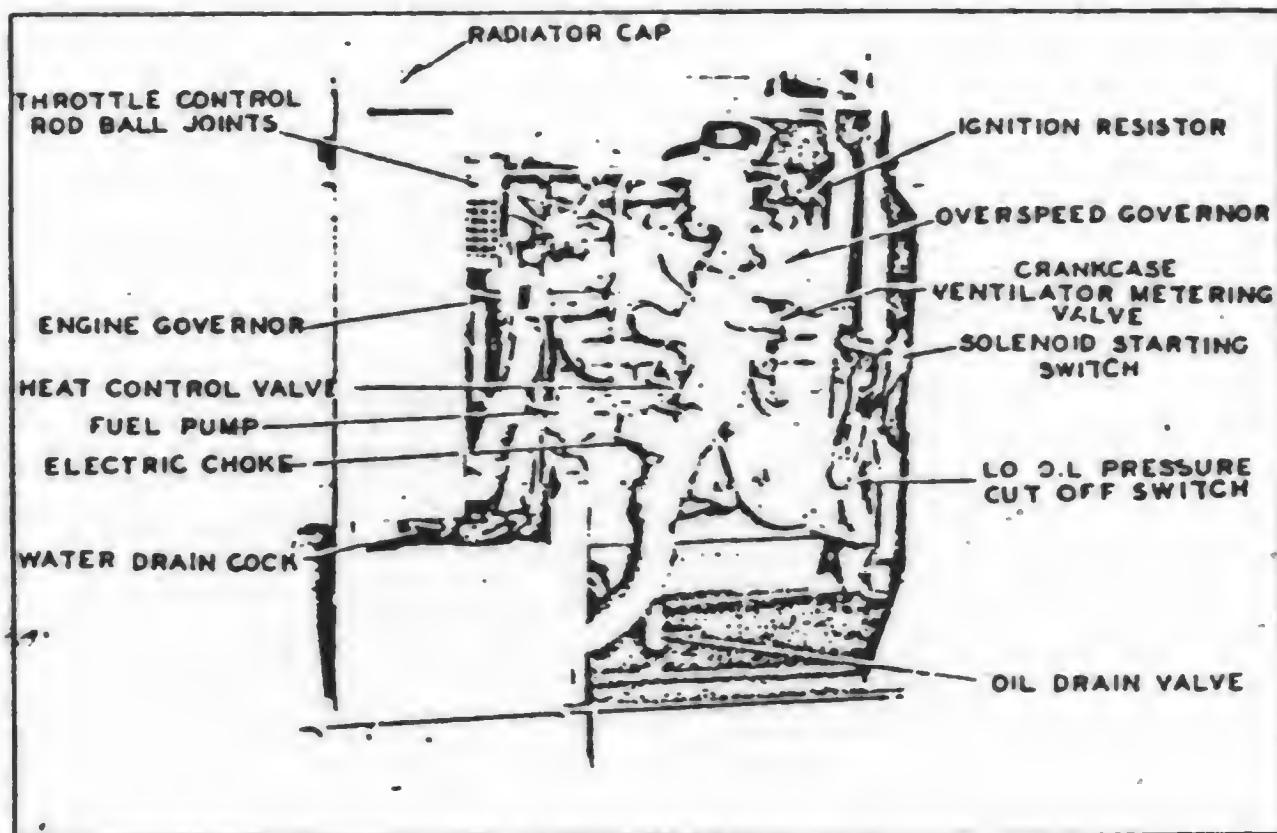

FIG. 5 RIGHT SIDE OF ENGINE
*a. Design.*—The engine (Fig. 5) is of the 4-cylinder, 4-cycle, L-head, water cooled, automotive type. It furnishes the power which drives the main generator to which it is direct-connected. It also drives certain necessary accessory equipment. It is designed to operate on regular gasoline of 70 to 80 octane.
*c. Miscellaneous Control Equipment.*—The following control devices are located at different places on the power unit. (See Figs. 5 and 6).
(19) *Fuel Pump.*—By means of the lever on the side of the fuel pump, (Fig. 5), pump the carburetor bowl full of fuel. If the engine camshaft sets so that the pump diaphragm is in its lowest position, the lever will not operate the pump. In that case insert the hand crank and crank the engine one complete revolution. Then the pump can be operated by the lever. Always push the lever down after pumping. If left up, the pump will not be operated by the engine. Examine the entire fuel system for leaks and correct any found.